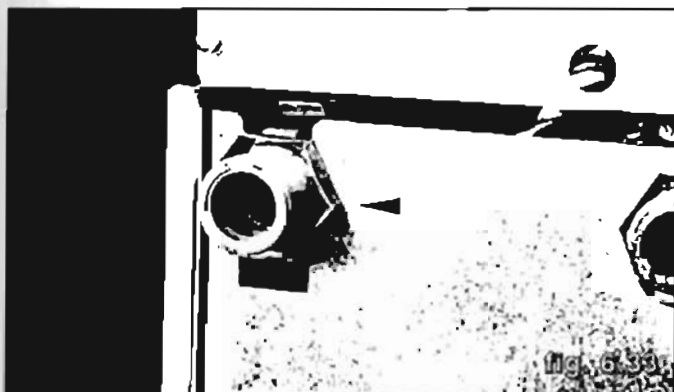

fig. 6.33
- 4 Loosen the inlet gas connection with its secure nut, as well (see fig. 6.33);